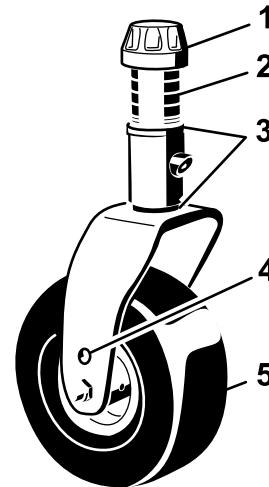
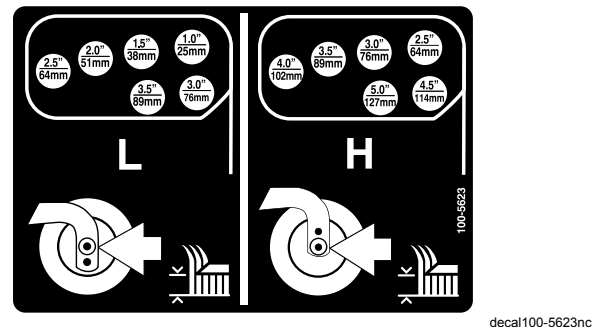
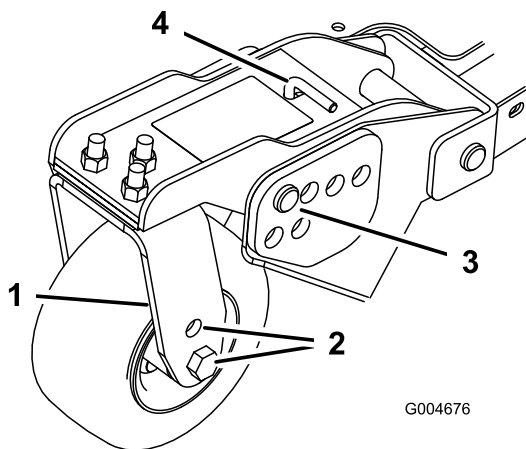

Figure 22
Figure 25
Figure 24
- Position the castor wheel axles in the same holes in all of the castor forks (Figure 22 and Figure 24). Refer to the following chart to determine the correct hole for the setting.
- Remove the tensioning cap from the spindle shaft (Figure 22) and slide the spindle out of castor arm. Put the two shims (3 mm [1/8 inch]) onto spindle shaft as they were originally installed. These shims are required to achieve a level across the entire width of the cutting units. Slide the appropriate number of 13 mm (1/2 inch) spacers onto the spindle shaft to get the desired height-of-cut; then slide the washer onto the shaft.
- Remove the hairpin cotter and clevis pins from the castor pivot arms (Figure 24).
- Rotate tension rod to raise or lower pivot arm until holes are aligned with selected height-of-cut bracket holes in the cutting unit frame (Figure 24 and Figure 25).